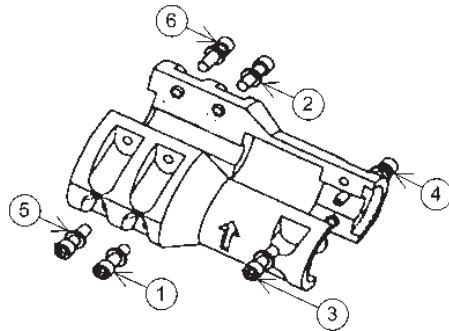

Figure 21: Motor Coupling
1. Remove the (2) coupling guards.
3. Disassemble the coupling by removing the (6) socket head screws. Remove the dowel pin on the pump shaft. See Figure 21. Retain bolts and dowel pin for reassembly.